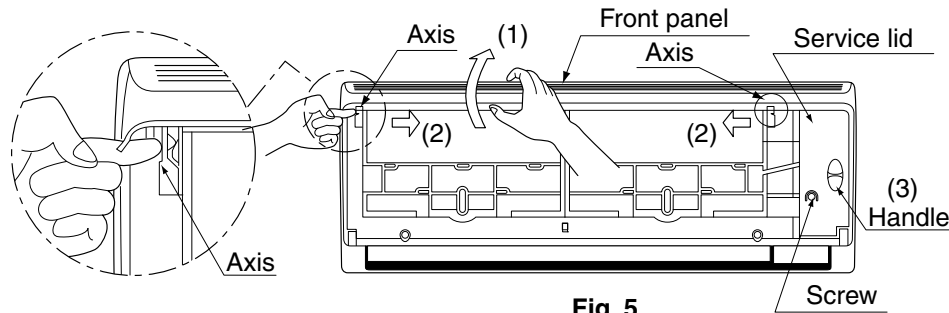

Fig. 5
(4) Remove the front panel and the service lid. (Refer to Fig. 5)